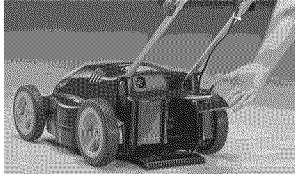

Figure 9 - Discharge Guard
2. Raise the hinged discharge guard on the back of the mower (see Figure 9).
1. Raise the hinged discharge guard on the back of the mower (see Figure 9).